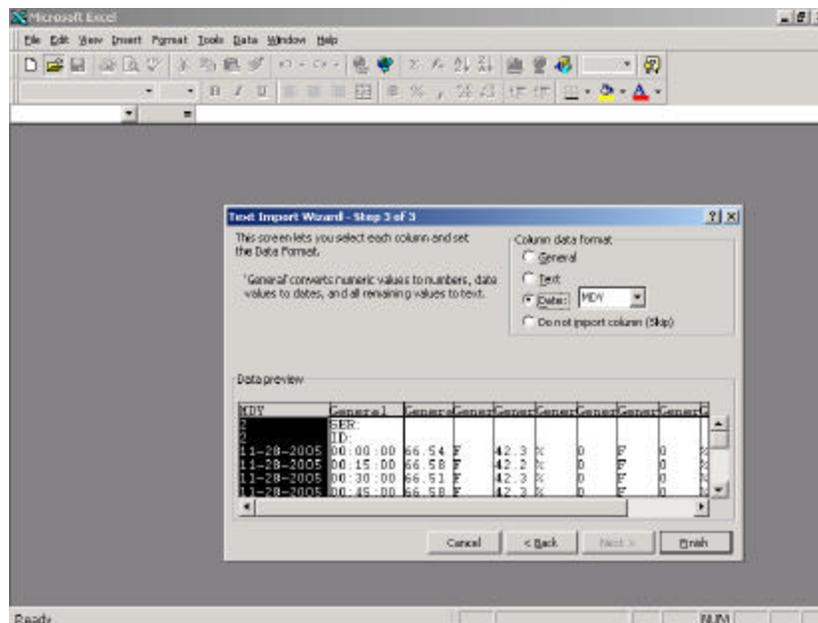

Figure 4. Specifying Environmental Data Format
- At the 'Text Import Wizard – Step 3 of 3' screen (see Figure 4) specify the first column data format as "Date...MDY", then click on the 'Finish' button.